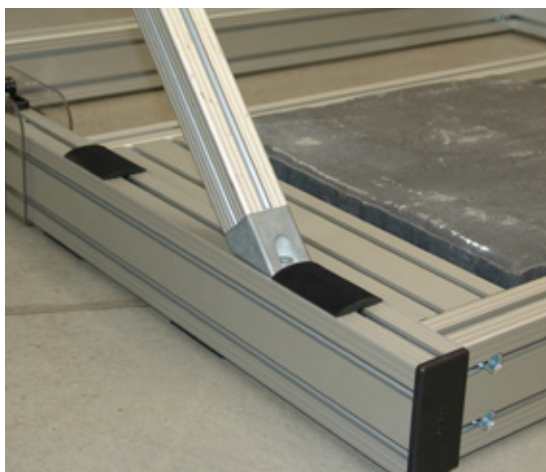

Fig. 3.1-25
Step 19 The 4 weights **A4** are now placed in the rear part of the frame base (Fig. 3.1-25). When doing so, observe the standard health and safety regulations (20 kg per weight).